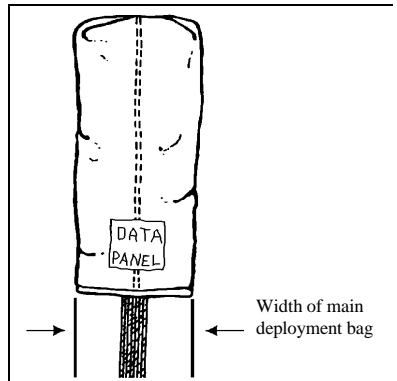

Figure 10.
Step 11.) Kneel on the trailing edge of the center cell of the canopy and center the middle seam of the center cell in the middle of the canopy bundle. "Cocoon" fold the bundle by spreading the center cell of the canopy to the approximate width of the main deployment bag and tuck the outer edges of the material under the bundle. (See Figure 10.)